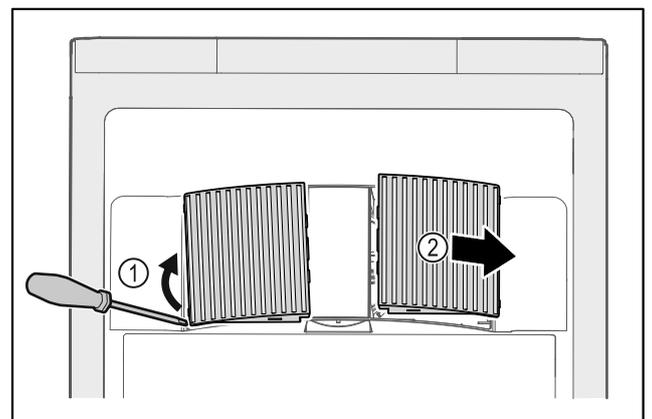

Fig. 46
- ▶ Carefully lever out fan covers from the side Fig. 46 (1) and remove towards the front Fig. 46 (2).